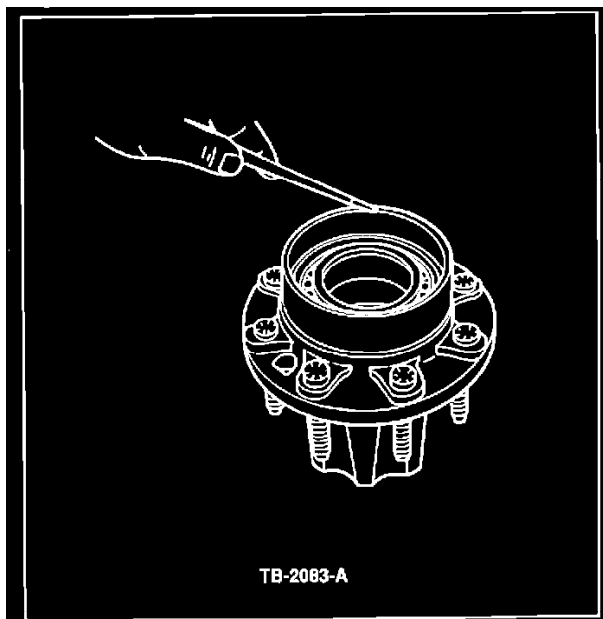

**Figure 1**
2. Remove the hub seal as shown in Figure 1.
**TB-1555-A****Figure 1**
1. Install a new output flange retaining nut (E7TZ-7045-A) on the output shaft, Figure 1.